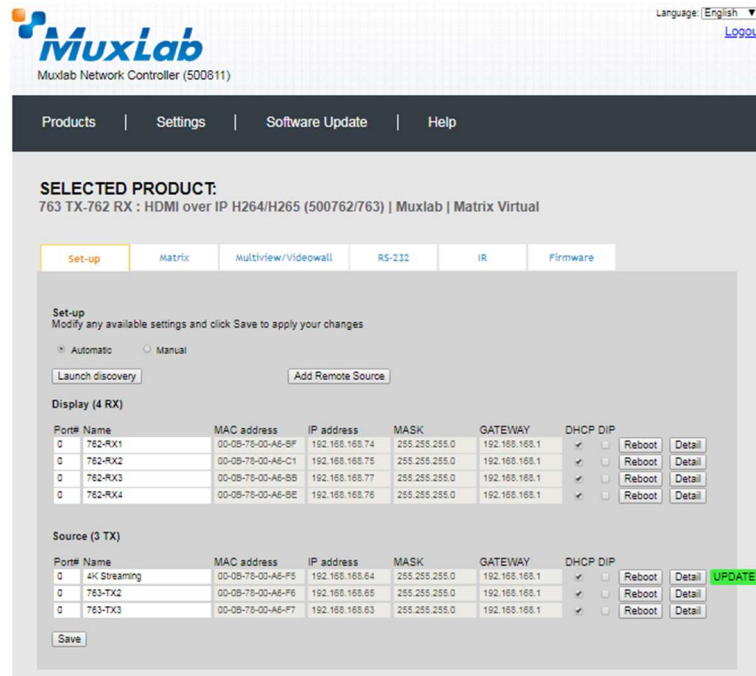

Figure 452: Saving Name Changes
Each 500763 transmitter can be assigned an arbitrary descriptive name, normally reflecting the end device that it is terminated to. To change the name of any Display (RX) or Source (TX) device, click the **Name** field to edit its contents. Several **Name** fields can be edited before saving changes, as shown in Figure 452 (orange highlighted fields).